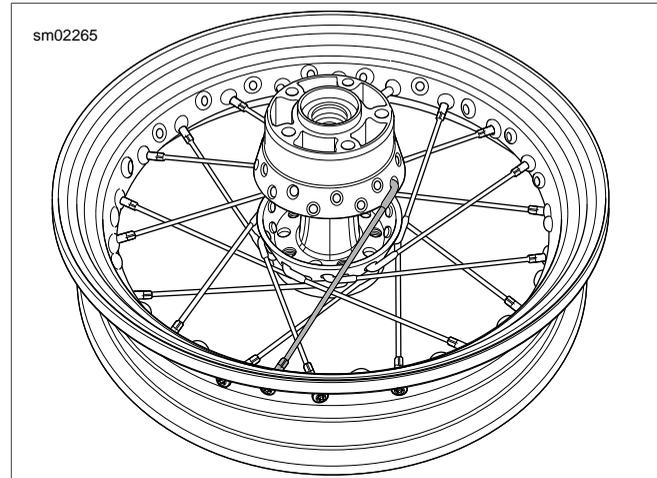

Figure 2-21. Sprocket Side Up: Start First Spoke of Bottom Row
- See Figure 2-21. Turn wheel assembly over. Place any **lower** row spoke into hub. Angle spoke clockwise and place into rim hole angled to accept it.